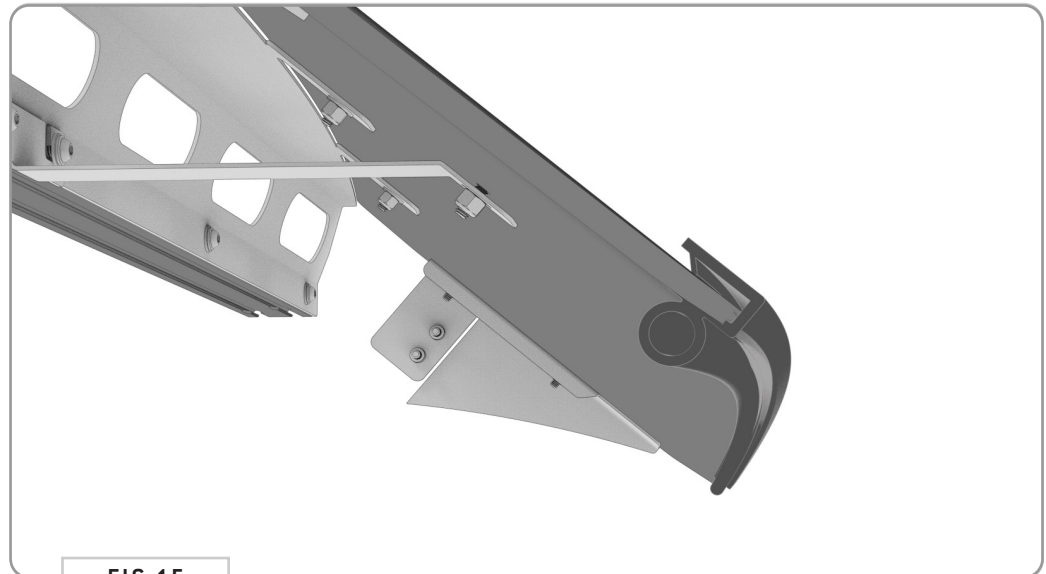

FIG 15
4.7 Fairing Gasket Trim: Attach the Fairing Gasket Trim to the Front Fairing in the orientation shown in FIG 15. Make sure the “bulbed” side is facing inward.